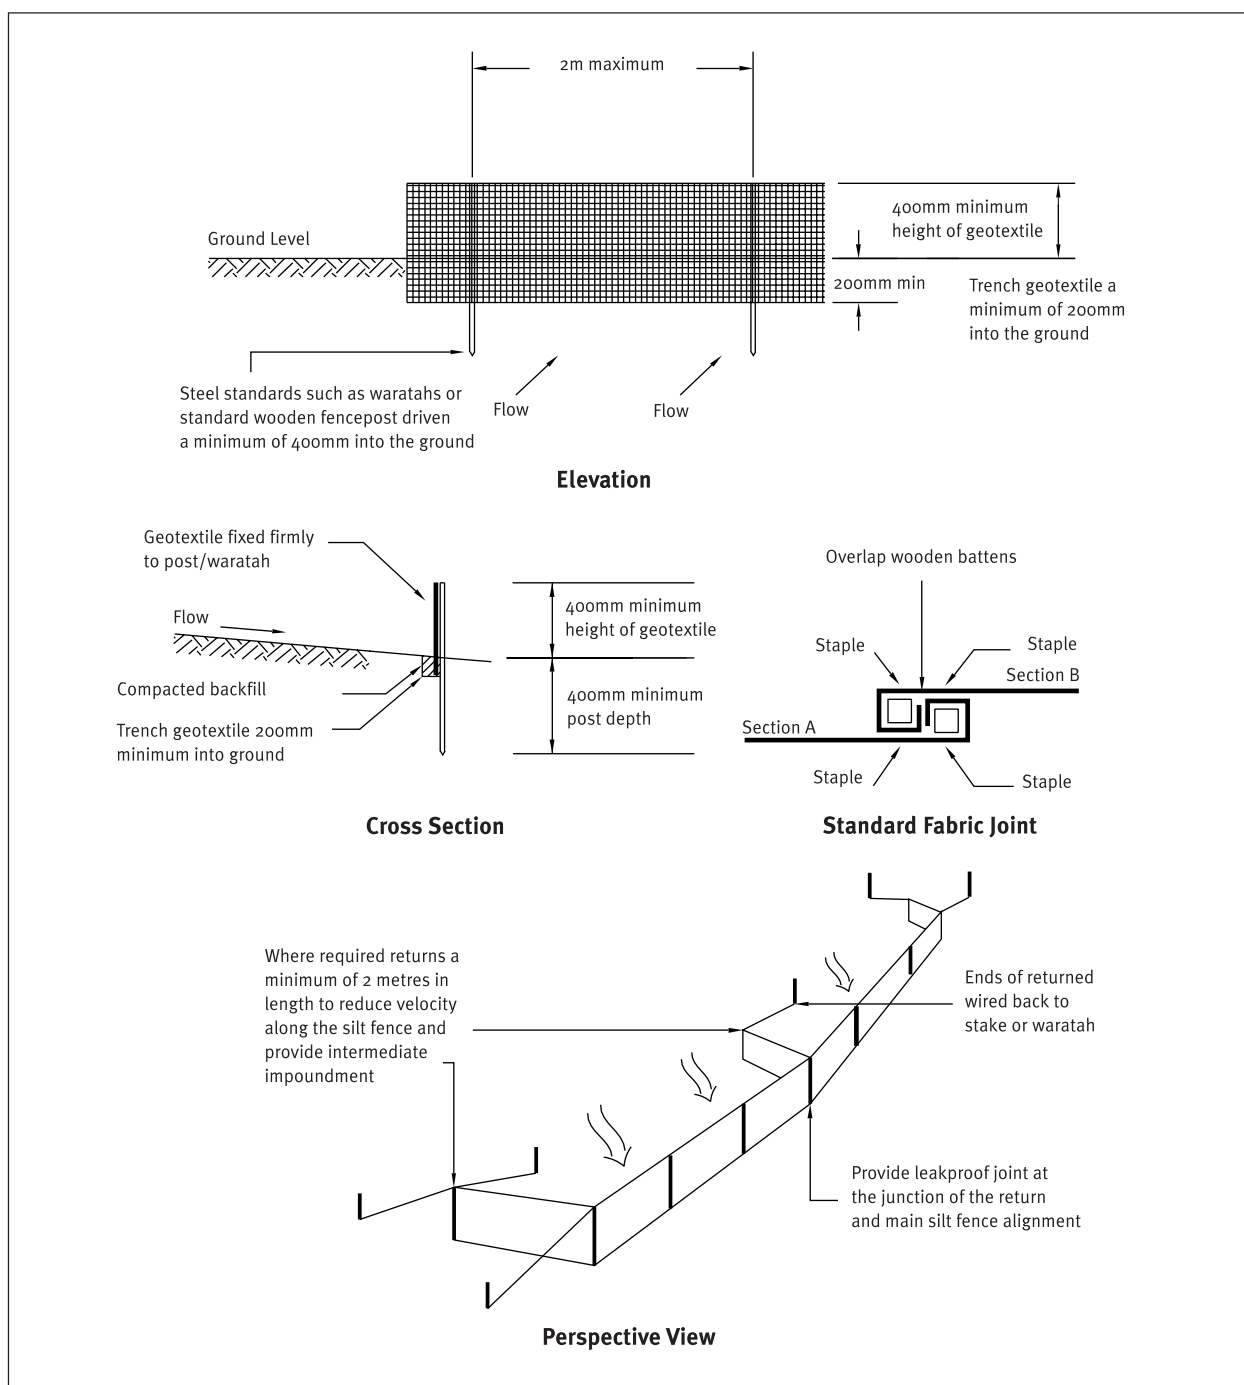

Figure 2.2 Silt Fence
- o Join lengths of Silt Fence by doubling over fabric ends around a wooden post or batten or by stapling the fabric ends to a batten and butting the two battens together as shown in Figure 2.2.